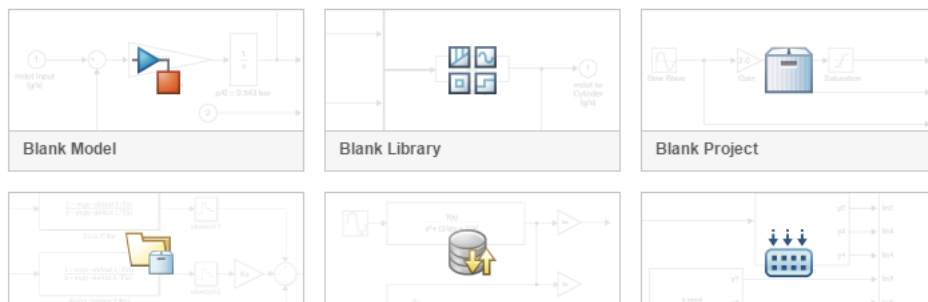

Figure 12.44: Create a Simulink model.
2. (Figure 12.44) Create a new Simulink model using the RTI1401 template provided by dSPACE.